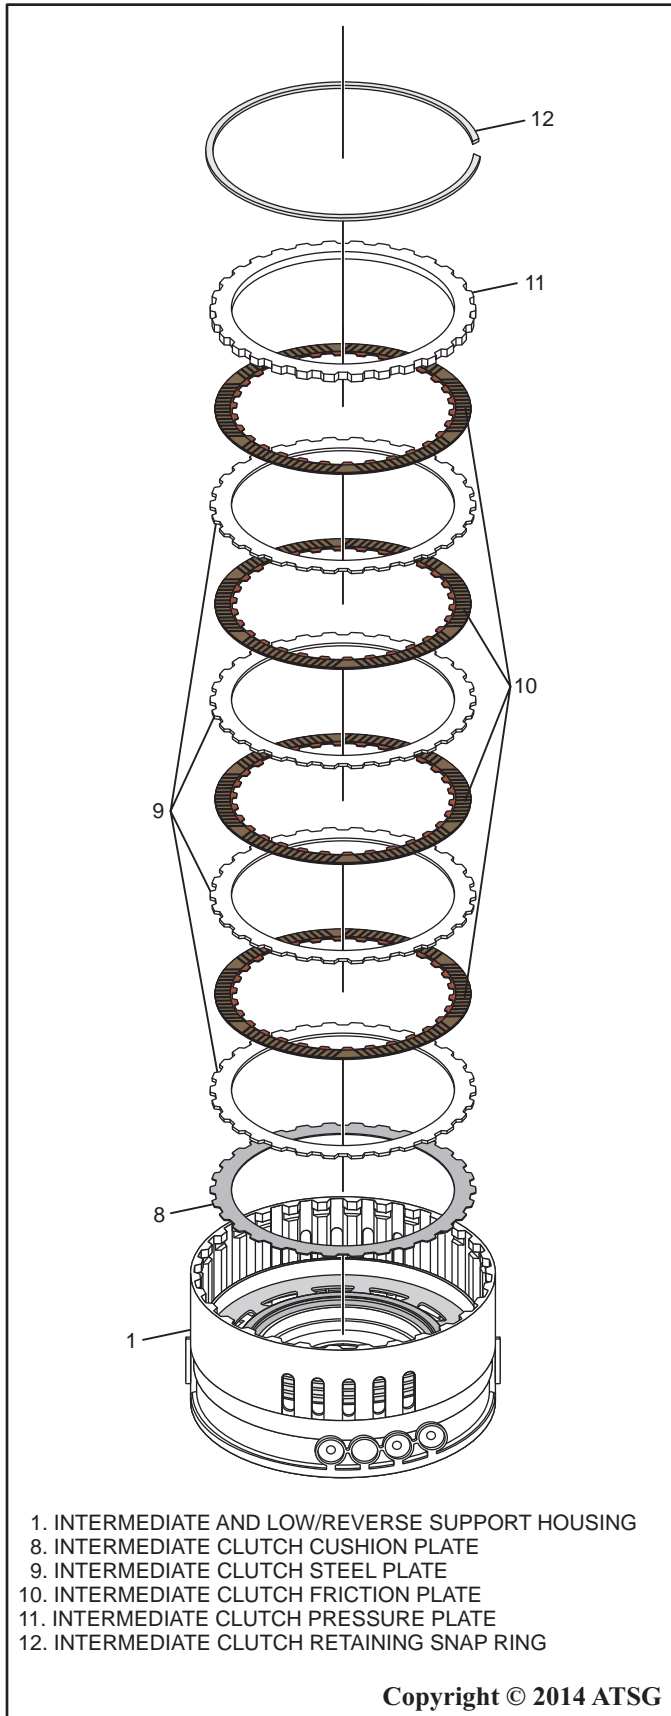

Figure 107
10. Install the intermediate clutch cushion plate as shown in Figure 107.
11. Install an intermediate clutch steel plate, then alternate installing friction plates and steel plates as shown in figure 107.
12. Install the intermediate clutch pressure plate as shown in Figure 107.
13. Install the intermediate clutch retaining snap ring as shown in Figure 107.